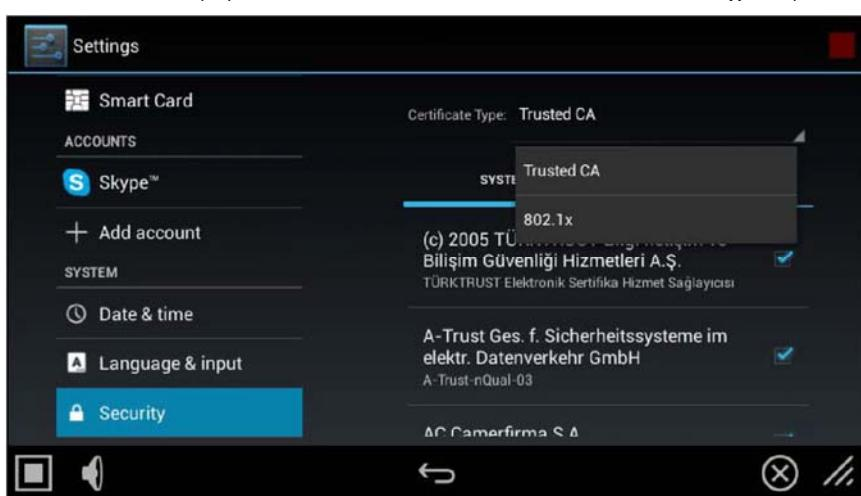

FIG. 105 Security page - Certificate Type menu NOTE:
3. Supported Certificate Types include Trusted CA and 802.x1. Note that each list has two tabs: System and User. To select which type of certificate to display, select either Trusted CA or 802.x1 from the **Certificate Type** drop-down menu (FIG. 105):